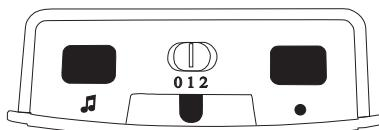

Figure 6: »signolux« top side
Using the signal mode slide switch (in fig. 6 "0 1 2") you can select the signal mode.
- d) Press the melody setting button (fig. 6) until you have found the desired melody (you can choose from 15 melodies).
- Keep the key • (fig. 6) pressed for some time. The symbols flash in sequence. Let go of the key as soon as you see the desired symbol.
- Now press key • and the melody setting button ♫ (fig. 6), until all symbols briefly flash at the same time.